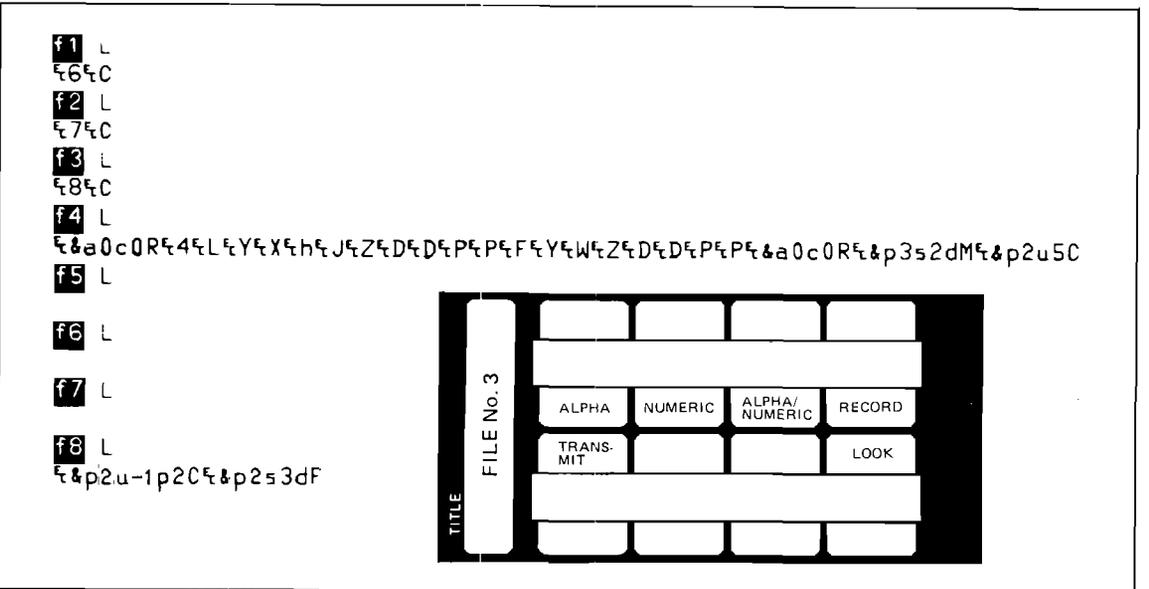

Figure A-3. Soft Key Programming and Soft Key Overlay For File 3
- STEP 8. Using figure A-3 as a guide, program each key, and mark a soft key overlay as shown.